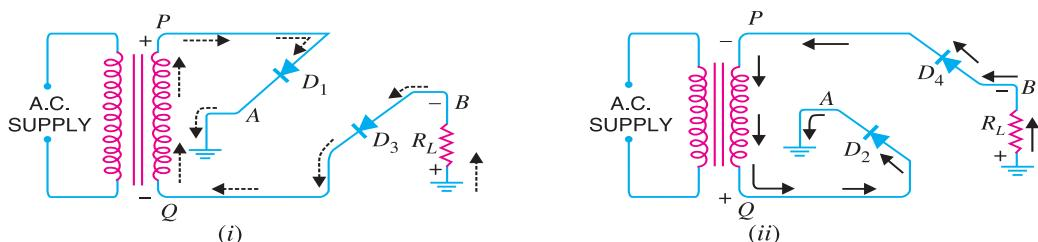

Fig. 6.27
**Operation.** During the positive half-cycle of secondary voltage, the end  $P$  of the secondary winding becomes positive and end  $Q$  negative. This makes diodes  $D_1$  and  $D_3$  forward biased while diodes  $D_2$  and  $D_4$  are reverse biased. Therefore, only diodes  $D_1$  and  $D_3$  conduct. These two diodes will be in series through the load  $R_L$  as shown in Fig. 6.27 (i). The conventional current flow is shown by dotted arrows. It may be seen that current flows from  $A$  to  $B$  through the load  $R_L$ .
During the negative half-cycle of secondary voltage, end  $P$  becomes negative and end  $Q$  positive. This makes diodes  $D_2$  and  $D_4$  forward biased whereas diodes  $D_1$  and  $D_3$  are reverse biased. Therefore, only diodes  $D_2$  and  $D_4$  conduct. These two diodes will be in series through the load  $R_L$  as shown in Fig. 6.27 (ii). The current flow is shown by the solid arrows. It may be seen that again current flows from  $A$  to  $B$  through the load i.e. in the same direction as for the positive half-cycle. Therefore, d.c. output is obtained across load  $R_L$ .